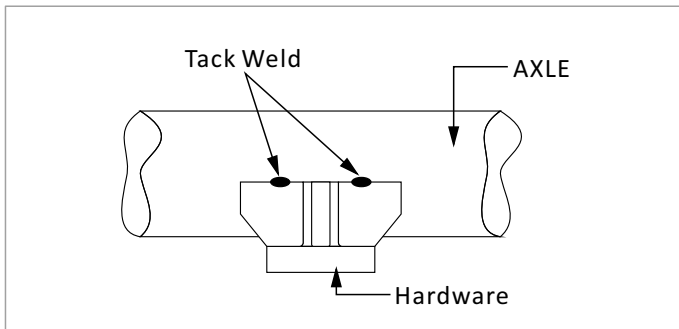

FIGURE 9
- » Prior to applying final welds, hardware should be tack welded to the axle following recommendations provided by the component manufacturer. This will help minimize both axle distortion and residual stresses caused by final welds. After tack welding, clean up any weld slag, then fuse the tack welds into the final welds. (Figure 9)